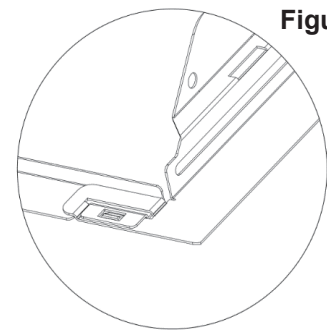

Figure4
STEP3: Install mounting brackets B between the fixture and T-grid. Mounting brackets A&B are locked like Figure 4.